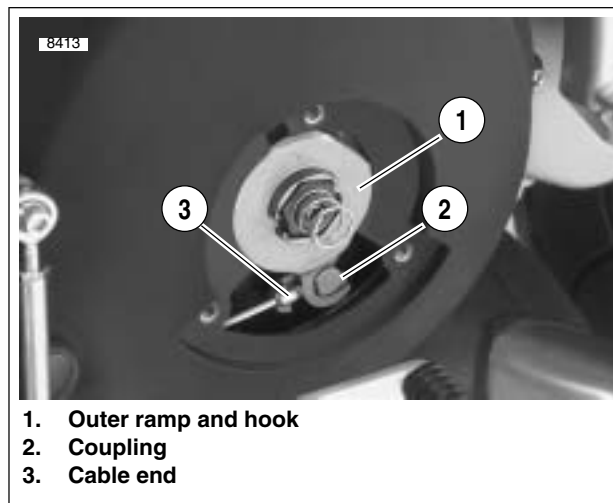

Figure 6-3. Clutch Release Mechanism
10. See Figure 6-3. Remove the outer ramp and hook (1) from the cable end (3) and coupling (2). Remove cable end from slot in coupling. See 6.3 CLUTCH RELEASE MECHANISM